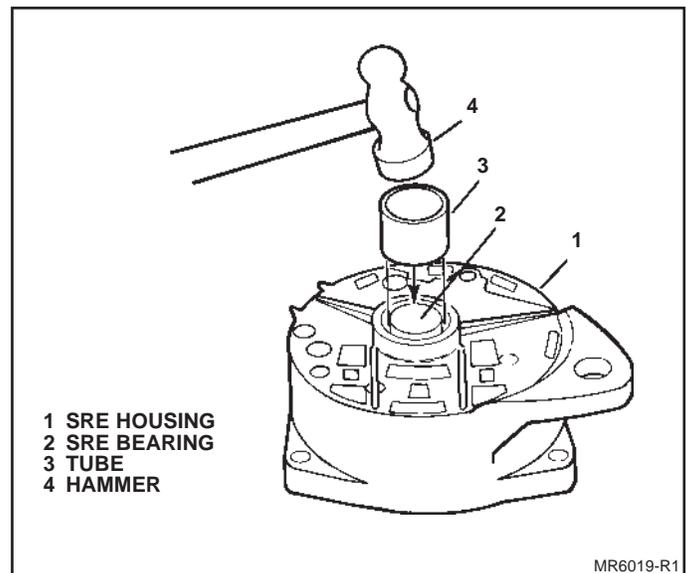

Figure 20. Removing SRE Bearing
14. Remove protective tape (see step 3) and check bearing in SRE housing. Bearings are permanently lubricated; do not add grease. If bearing is dry or damaged, replace bearing. If bearing is being replaced without removing brushes from SRE housing, use brush pin to hold brushes in retracted position while bearing is removed. To remove bearing, use tube slightly smaller than opening in SRE housing and drive bearing through to inside of housing (Fig. 20). If bearing is not removed, place tape back over bearing.